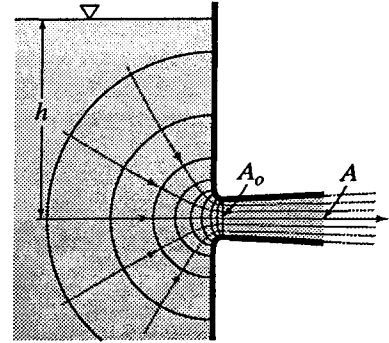

Figure X11.6.5
11.6.9 Given that the diverging tube shown in Fig. X11.6.5 has $A = 1.75A_o$. If it is operating at 1000 m elevation under standard atmospheric conditions, what will be the maximum value of h for which the tube will flow full?